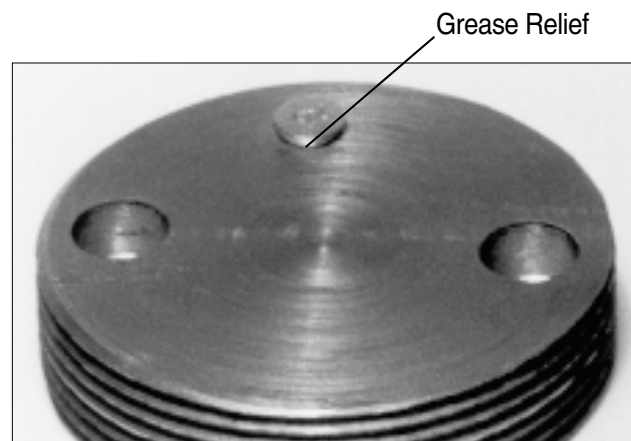

Figure 2 - Grease Relief
2. The newest Gunite slack adjusters are produced without a grease relief, forcing lubricant through the drilled worm wheel onto the camshaft. Previous designs incorporated a grease relief (see fig. 2).